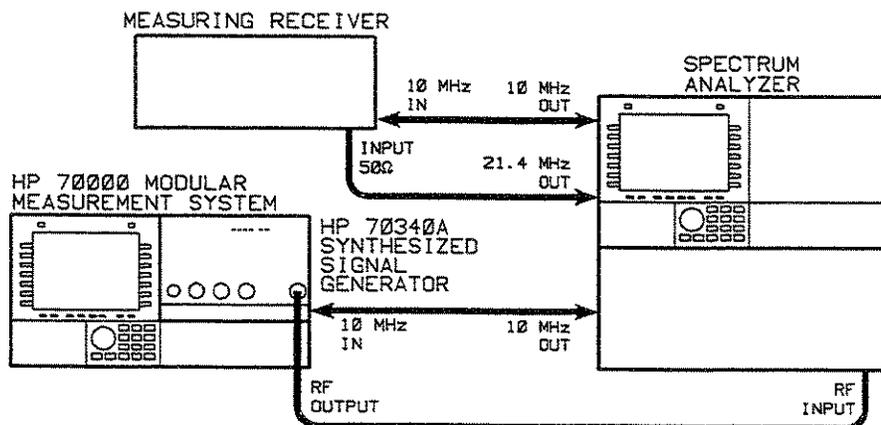

Figure 1-7. 1 GHz to 18 GHz Low Level Accuracy Test Setup using Measuring Receiver
1. Connect the equipment as shown in Figure 1-7.